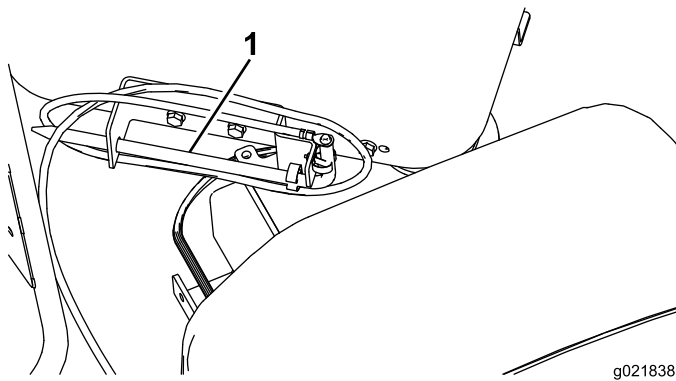

Figure 85
1. Remove the grounding stake from the holder on the side of the operator platform (Figure 85).
2. Move the drill carriage fully down the drill frame and spray the spindle threads with thread joint compound, then return the drill carriage to the upper end of the frame (Figure 85).